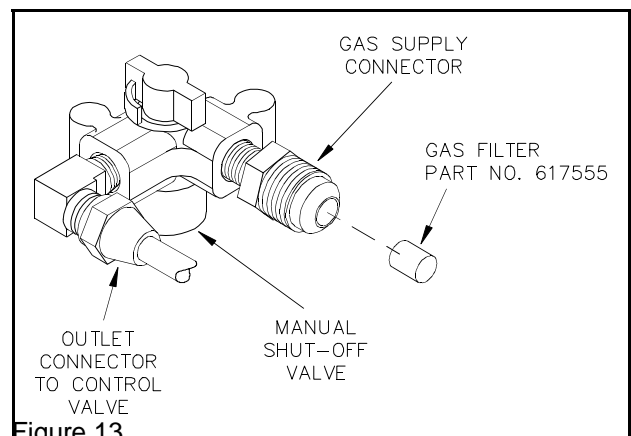

Figure 13
- Inspect the filter located in the inlet side of the manual Gas Valve (Figure 13) to confirm that it has not become dirty/plugged from contaminants. If in doubt, replace the filter.